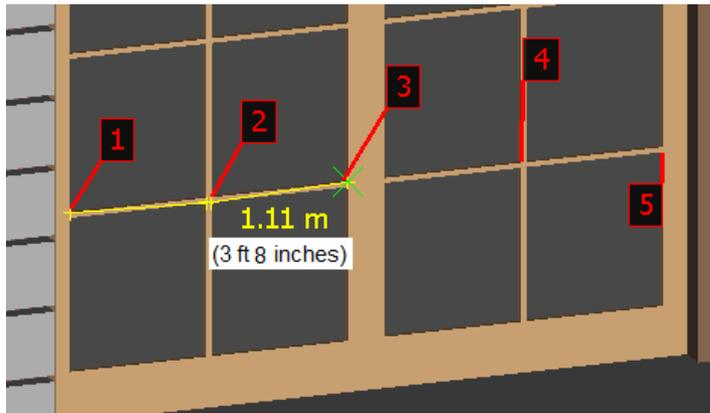

Figure 3-43 Distance calculated between point 1 and 3
4. Again, click on the point **2** and then click on point **3**; the calculated distance is displayed, as shown in Figure 3-43.